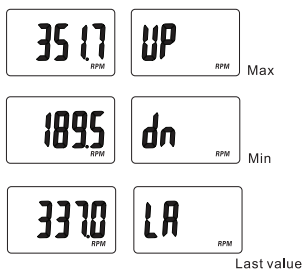

Fig. 2
a. Slide the function switch (4) to RPM or Hz, to select desired unit of measure.
b. Press and hold the measurement button (3); Class II laser will activate. Point light beam at the reflective mark to obtain readings.
c. After display data is stable and the desired amount of readings have been taken, release the measurement button. The maximum (UP), minimum (dn) and last value (LA) have been recorded over the test period.
d. Press "MEM" button (5) to cycle the display through the maximum (UP), minimum (dn), and last (LA) values. The MEM button must be pressed and released each time to cycle through the values (Fig. 2).